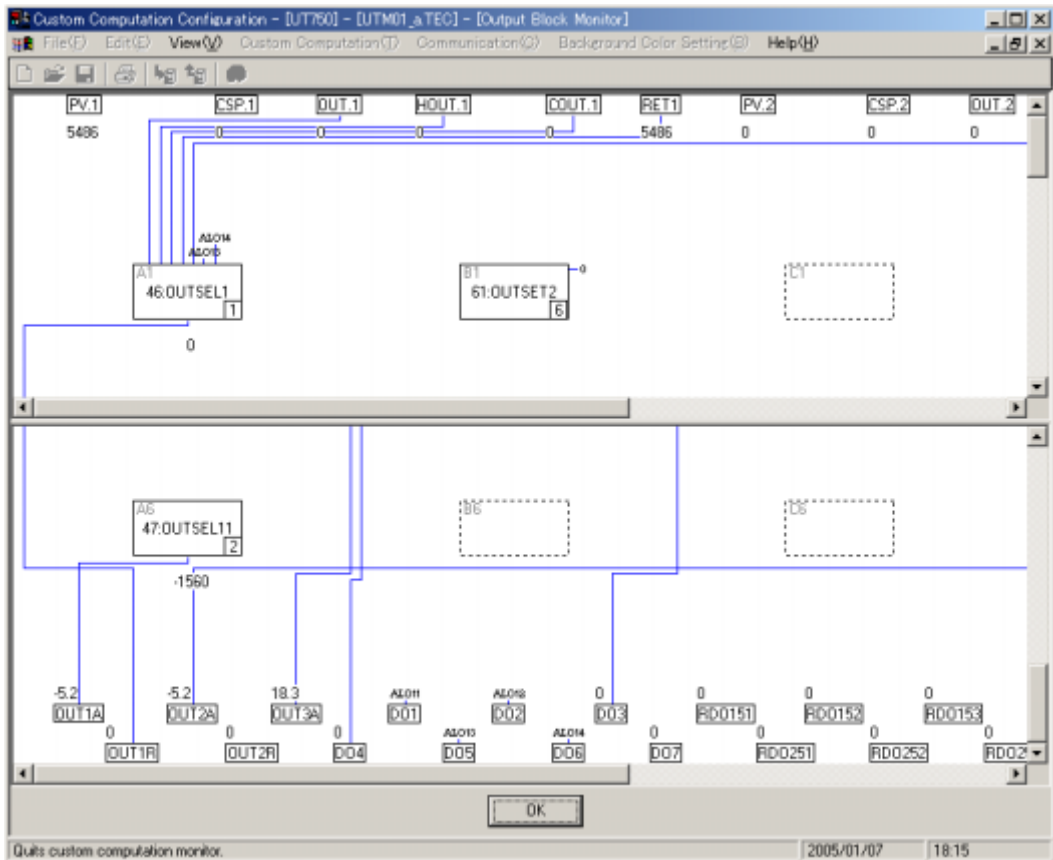
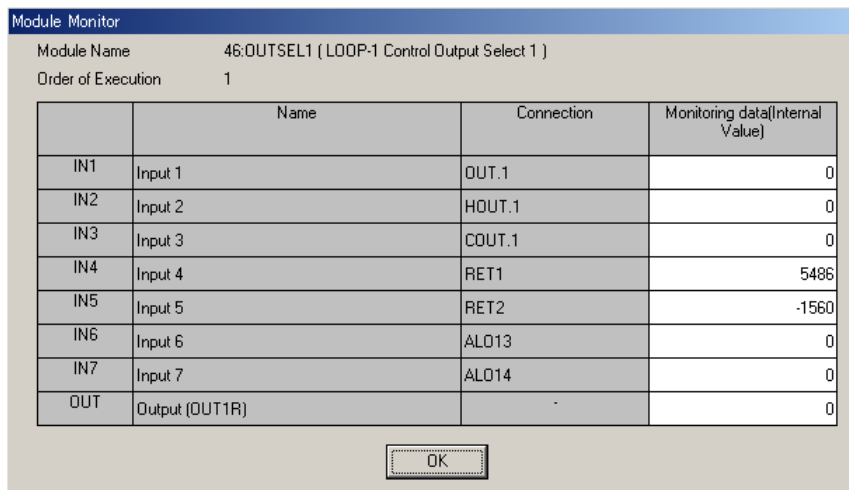

Figure 11.3.2 Example of [Output Block Monitor] View
Figure 11.3.3 Example of [Module Monitor] View
In the [Output Block Monitor] view (Figure 11.3.2), you can monitor the signals listed in the following table.
- (2) Match the communication conditions of the controller with those of the personal computer, and then click the <OK> button.
- (3) The [Output Block Monitor] view (Figure 11.3.2) appears.
- (1) Double-click the computation module in the [Output Block Monitor] view (Figure 11.3.2). The [Module Monitor] (Figure 11.3.3) view appears.